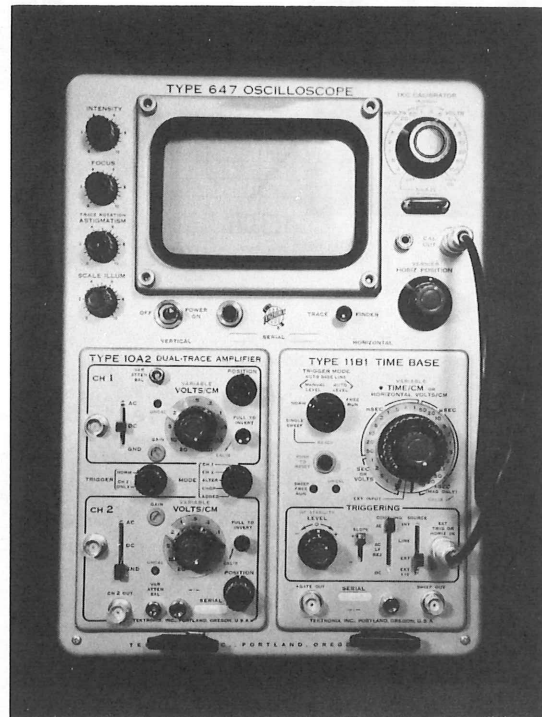

Figure 27
2. Apply the .5 v CAL SIGNAL to the EXT. TRIG or HORIZ. IN connector. See Figure 27.